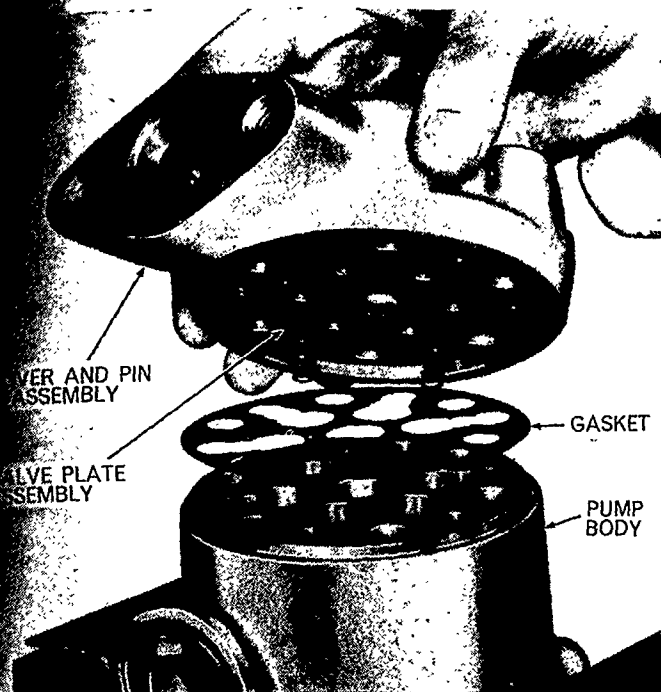

Figure 82
6. Separate the cover assembly from the body taking care not to bend or damage the small inlet valve springs, Figure 82.